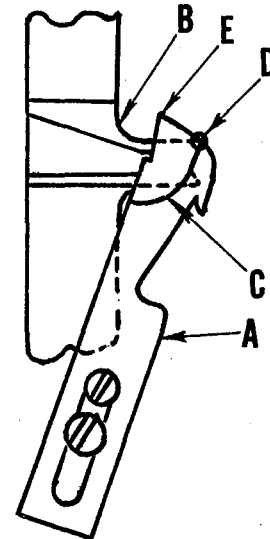
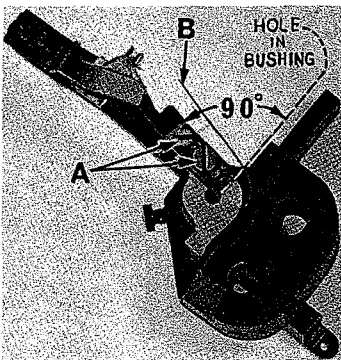
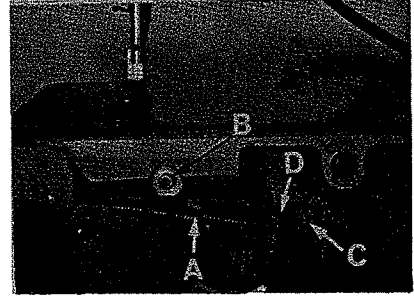

Fig. 29
Fig. 30
Fig. 32
2. Position upper knife (D) parallel with the left side of the arm of the positioning finger. Check to see that the lower knife is parallel with the upper knife. If this is not so, loosen the finger set screw (E) and turn the eccentric bushing (F) until the knives are parallel. A good starting point would be to have the pin hole in the eccentric bushing (F) located approximately 90° to the right side of the arm of the positioning finger (Fig. 30).
The lower knife (A, Fig. 29) in its extreme left position should not extend beyond the left side of the arm of the positioning finger (B). As the lower knife moves to the right, the run out of the cutting edge (C) must coincide at a point of the positioning finger as indicated at point (D). To make these adjustments, loosen screws (A, Fig. 30) and position knife.
(A, Fig. 32) is in position.
5. Adjust the lower knife stop screw (B, Fig. 32) so when the lower knife is in its extreme right hand position, the left corner (E, Fig. 29) is in line with the left side of the needle slot in the bobbin case holder.
6. Be sure the spring retainer wire (B, Fig. 30) contacts the bobbin case holder when the lower knife is in its extreme right hand position. If the spring wire does not make contact, bend retainer wire to suit.
7. Knife return spring (A, Fig. 32) to have proper tension to cut threads. To adjust tension of knife return spring loosen screw (C) and move tension spring bracket (D) to the right to increase tension or to the left to decrease the tension.